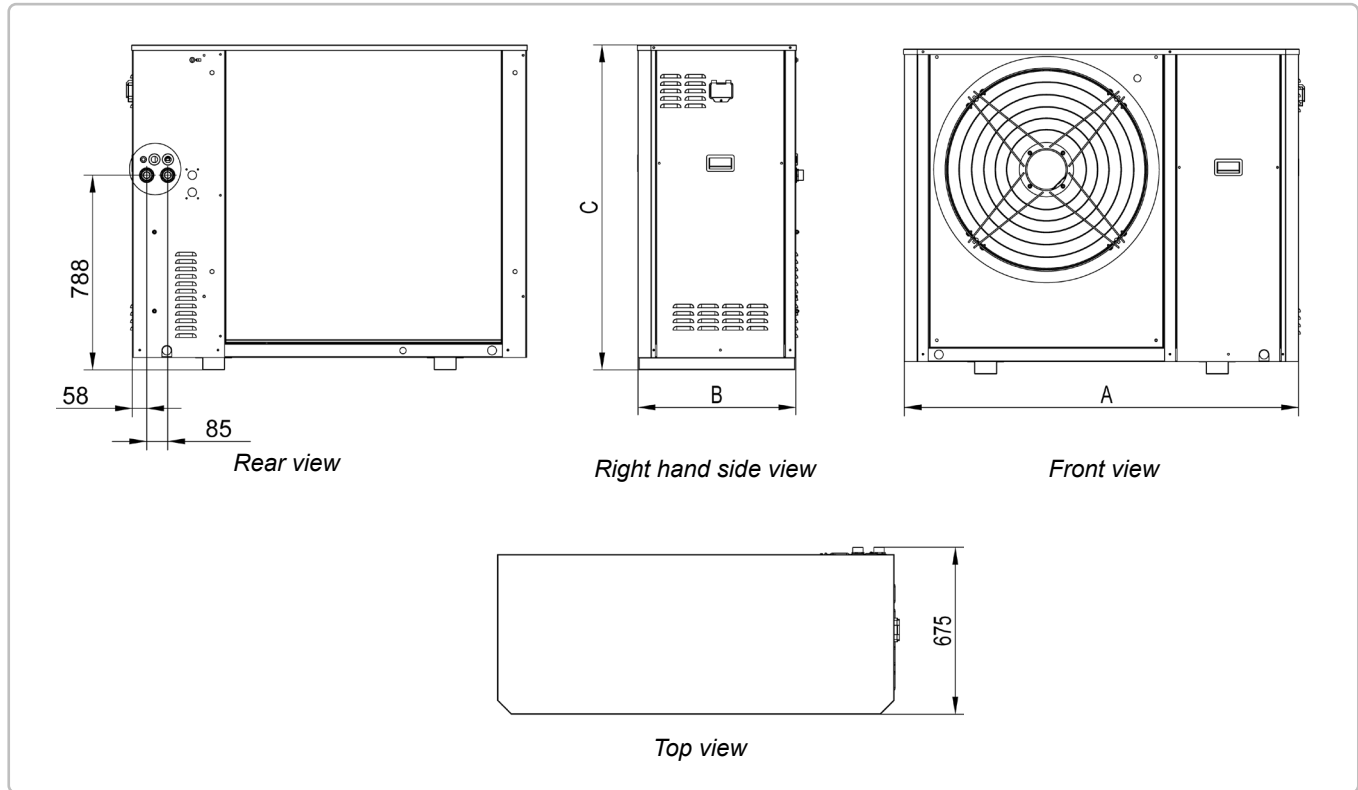

Figure 1 - Frame sizes (in mm) for both 26kW and 32kW
- 1) Remove the two component compartment access panels by loosening the screws as indicated in figure 1